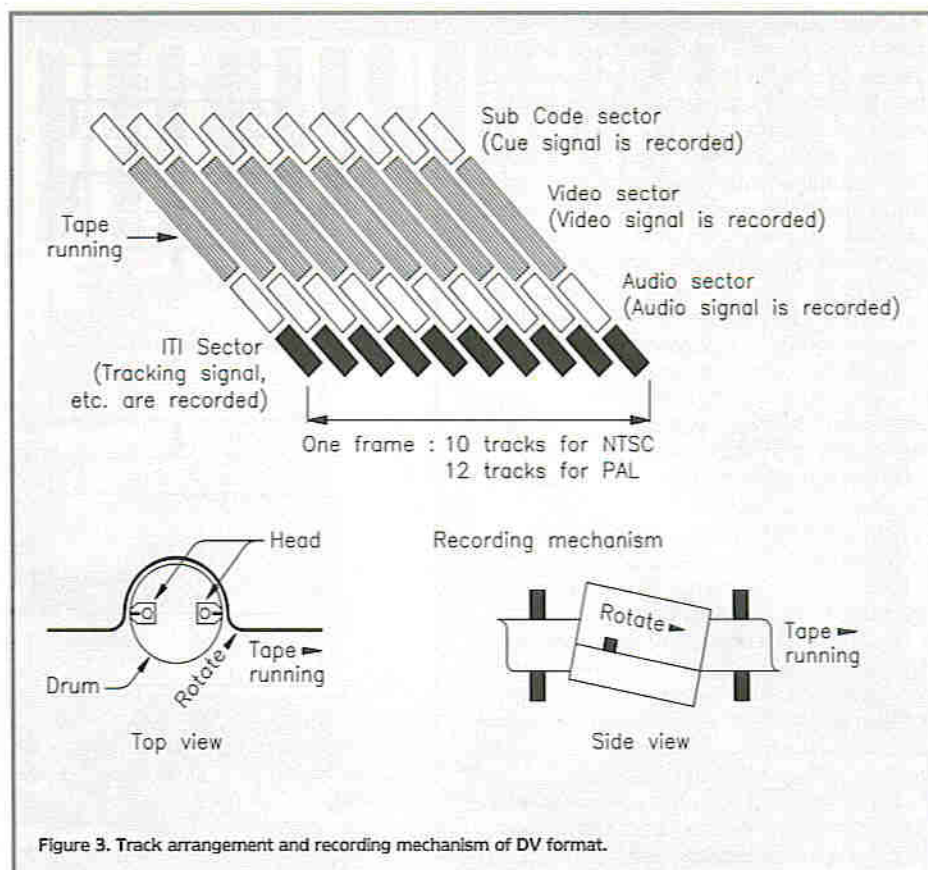

Figure 3. Track arrangement and recording mechanism of DV format.
DV uses 6.35mm double-layer metal evaporated (ME) tape in two sizes of cassette: a Mini DV cassette which allows up to one hour of recording and the larger standard DV cassette with a 4.5 hour capacity, with the tape running at 18.8mm/s. The former will be used for camcorders, but both will be accepted by VTRs without an adaptor being required. An optional IC cassette memory will provide a table of contents list to facilitate rapid searches; but even without the memory, high-speed access is still possible in the VTR by using subcode data. Recordings are made by two heads on a 21.7mm diameter drum rotating at 9,000rpm, laying down 12 tracks per frame (PAL), each of which is just 10µm wide and divided into sectors (see Figure 3).